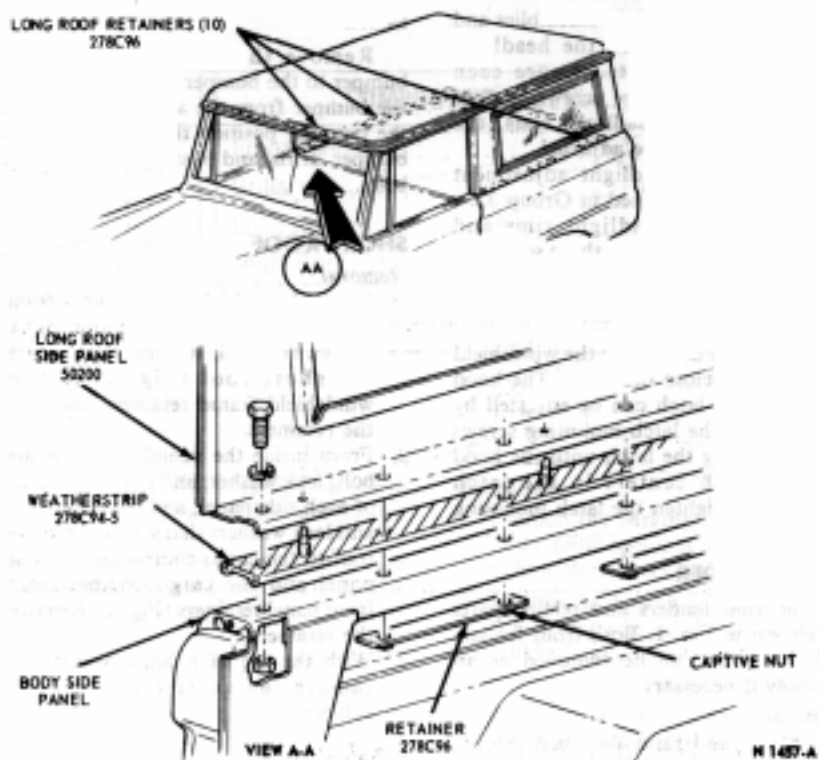

FIG. 3 Bronco Long Roof Installation
2. On models so equipped, remove the trim moulding assembly from the metal panel by unsnapping the retainers (Fig. 3). If equipped with a trim panel assembly, the trim panel will come off when the moulding is removed.
3. Remove the retaining screws and remove the metal panel from the door (Fig. 3).
4. screws and lock washers that secure the long roof to the cargo bed side rail and the side rail retainers (Fig. 3). Remove the retainers.